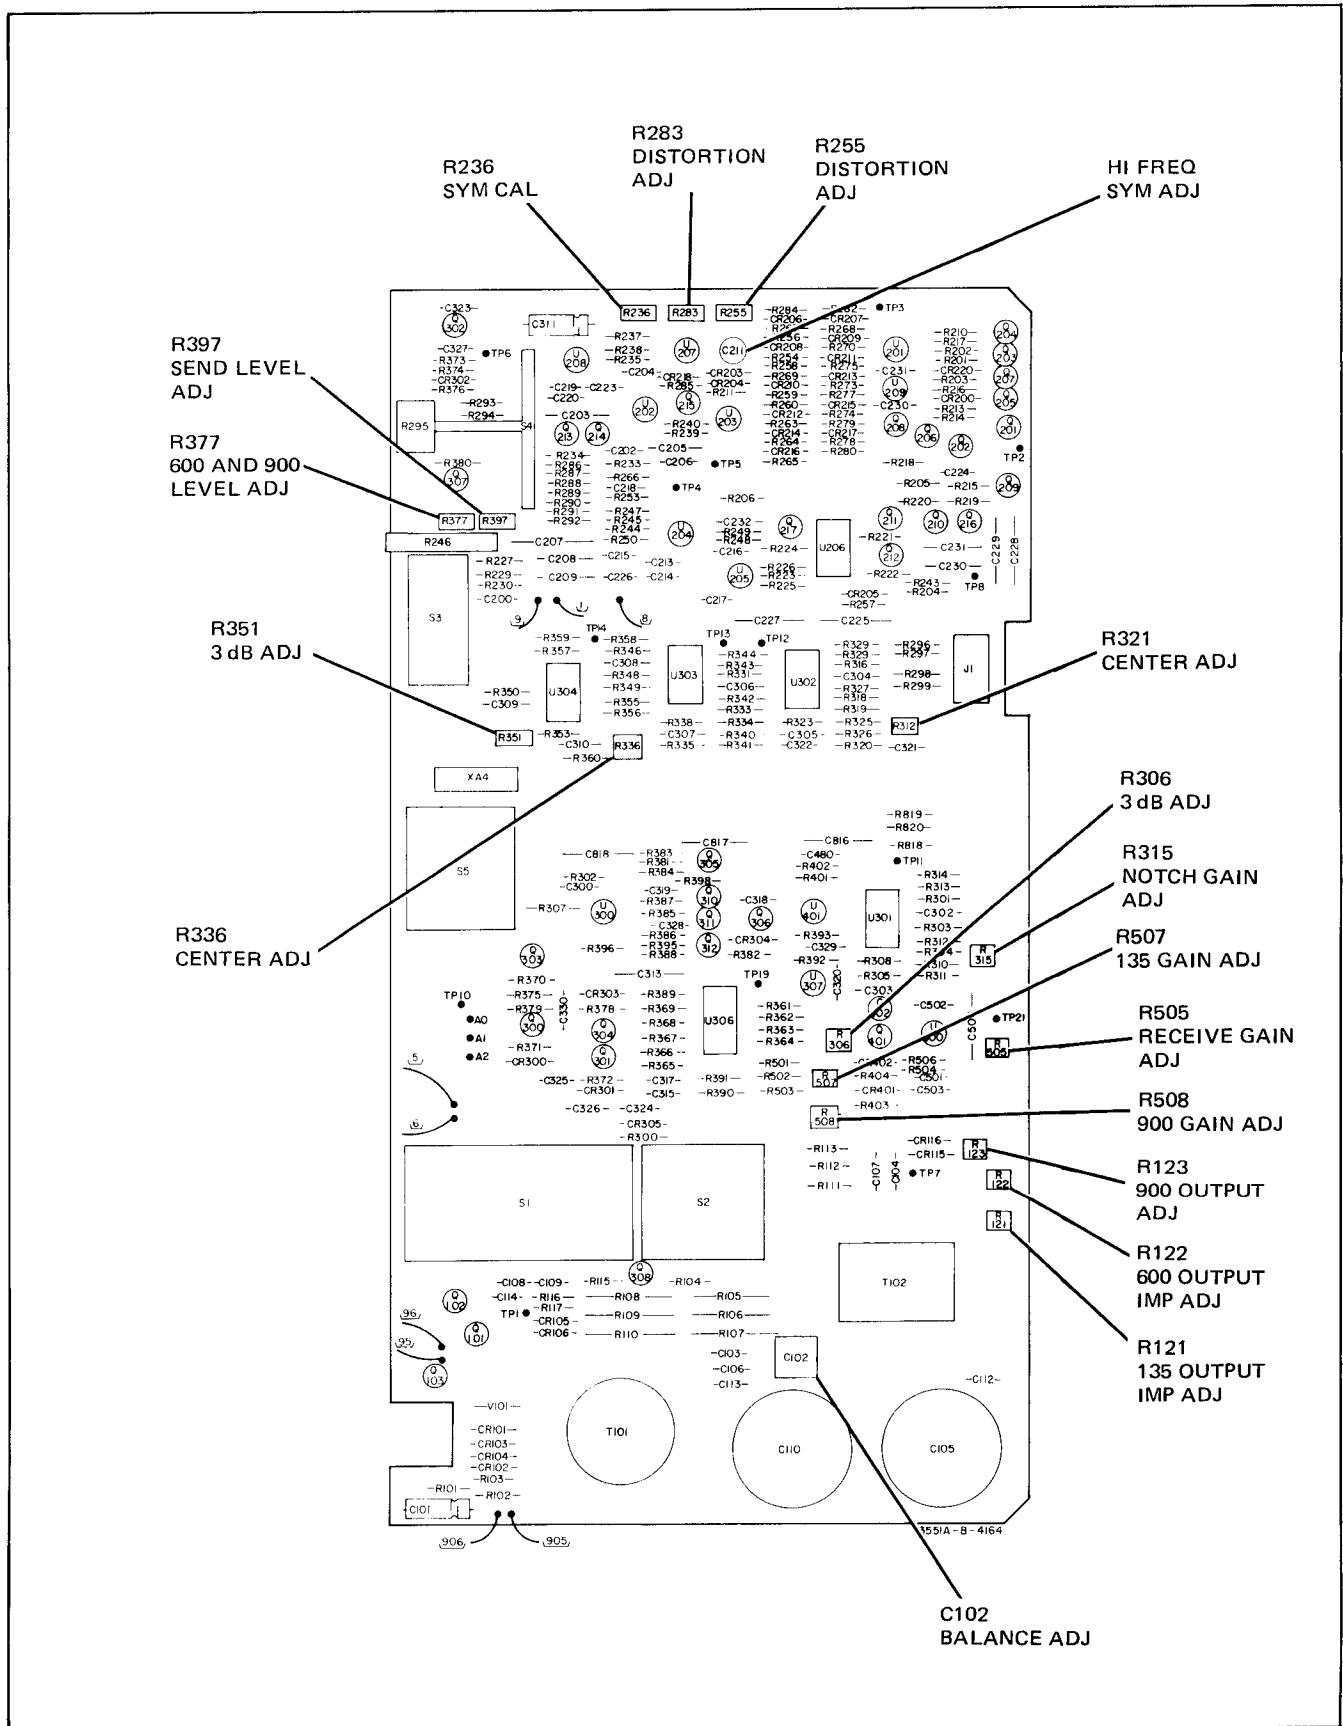

Figure 5-12. A3 Adjustment Locator.  $\Delta_1$
e. Center pots (1 turn pots) A3R306, A3R321, A3R336, and A3R351. Refer to A3 adjustment locations shown on Figure 5-12.